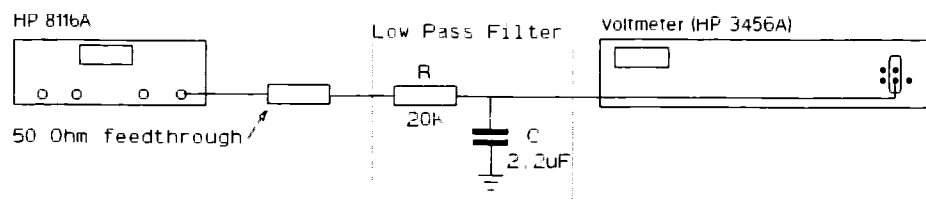

Figure 9-2. Low Pass Filter
- Low pass filter (Refer to Figure 9-2)
11. Connect the HP 8116A's main output to the DVM, enable the DVM's built-in filter and set the DVM to read DC voltages. If the DVM does not have a built-in filter, use an external low pass filter, as shown in Figure 9-2.
28. Connect the HP 8116A's main output via a $50\ \Omega$ feedthrough terminator to the DVM, and enable the DVM's built-in filter. If the DVM does not have a built in filter, use a low-pass filter as shown in Figure 9-2.
43. Connect the HP 8116A's main output via a 50 Ω feedthrough terminator to the DVM, and enable the DVM's built-in filter. If the DVM does not have a built-in filter, use a low-pass filter as shown in Figure 9-2.